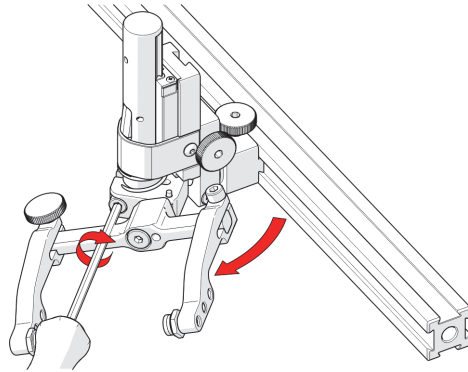

Figure 2-61 Rotate and tighten
3. Tighten the transverse adjustment screw (see Figure 2-61 on page 98).